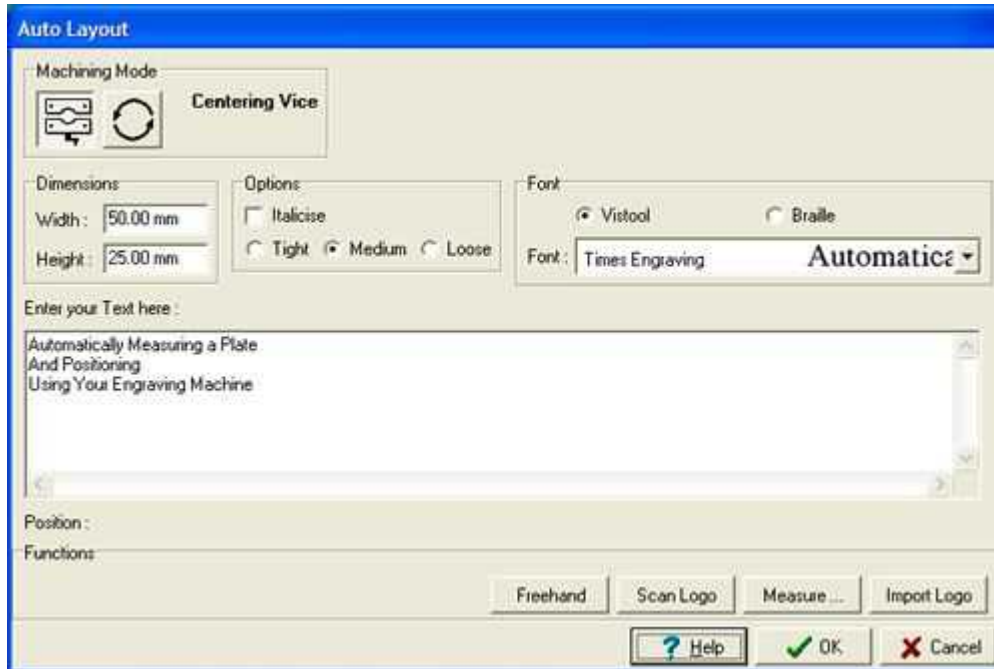

Figure 1
- 5 To measure the size of your flat plate and its position Left Click On "Measure", see Figure 1. At this stage you do not have to enter any text.